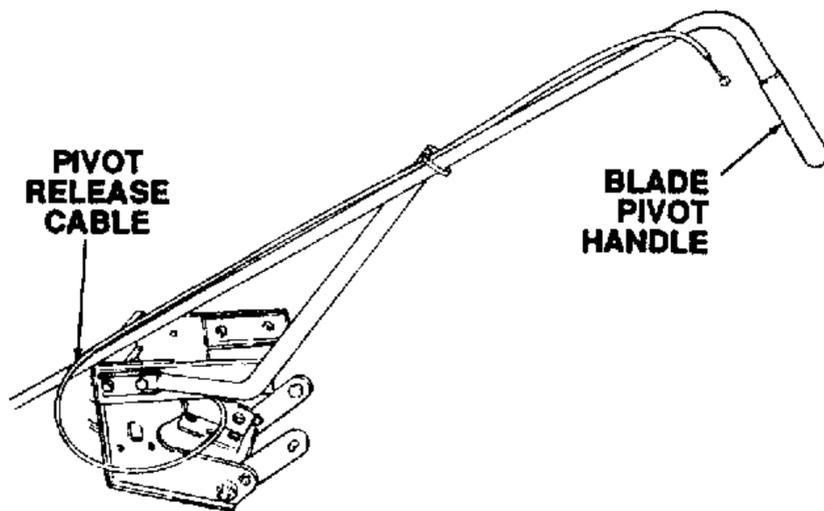

Figure 7-14. Routing Pivot Release Cable.
When feeding the pivot release cable up through the eyelet of the handle support tube (3), route the cable as shown in Figure 7-14. Make certain the cable has a smooth even bend and is not kinked.
3. Feed the pivot release cable up through the eyelet to the top of the pivot handle (2).